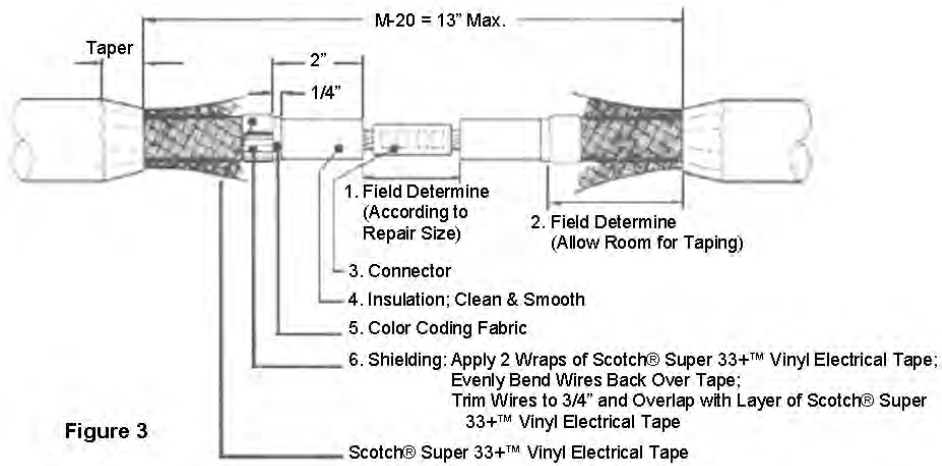

Figure 3
2. **600/2000 Volt Shielded Portable Cable (Figures 3 & 4)**
1. Bind conductors together with band(s) of *INVERTED* vinyl tape (adhesive side out), located per spacer web positions shown in *INSTRUCTION 2, FIGURE 3, PAGE 7*.
2. Wrap on spacer web collar(s); build *EQUAL DIAMETERS* to 1 layer greater than repair or cable diameter, whichever is largest. (Figure 7) *Locate and install collars according to INSTRUCTION 2, FIGURES 3 & 4, PAGE 7*.